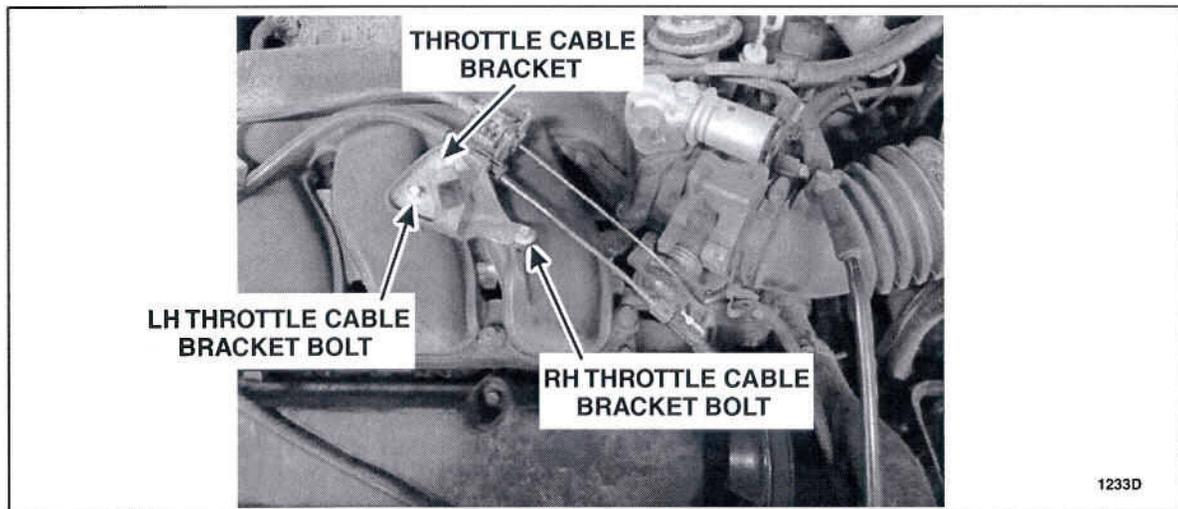

FIGURE 3
- Loosen the RH throttle cable bracket bolt and remove the LH throttle cable bracket bolt. See Figure 3. Rotate the bracket to allow enough clearance for the speed control cable to be positioned under the bracket.